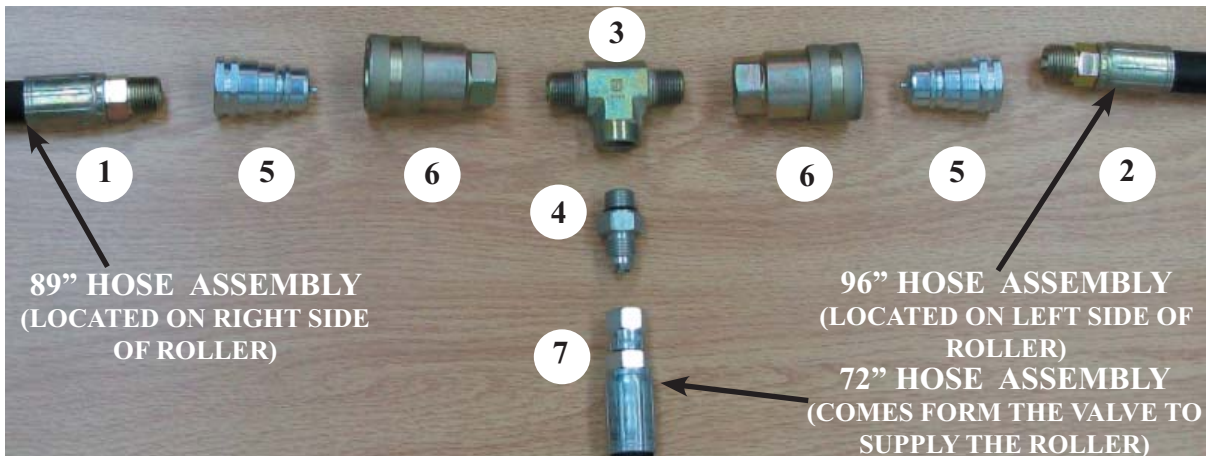

Figure 2.1 -Rod End Assembly of LEFT Cylinder
Refer to *Figures 2.1 & 2.2* for this step.
- On the cylinders, thread a 6MJ-6MP fitting (#2) into the rod ends. Attach the 89" (#1) hydraulic line to one side of the tee fitting and the 96" hydraulic line to the other via the quick connects. See *figure 2.1 & figure 2.2*